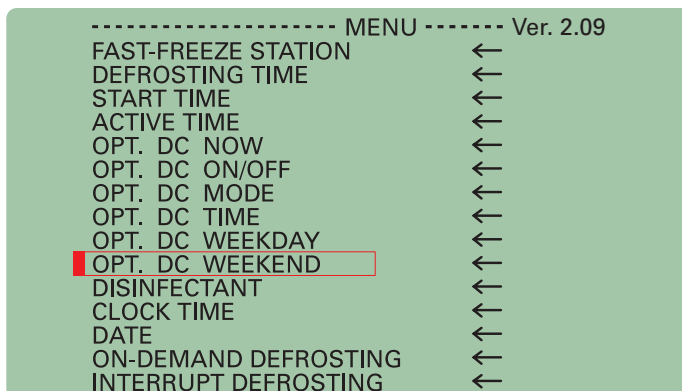

Figure 124. Display: Selecting the weekend for the weekly Cold D.
- Press Enter (Fig. 113.10) to open the submenu (Fig. 124).